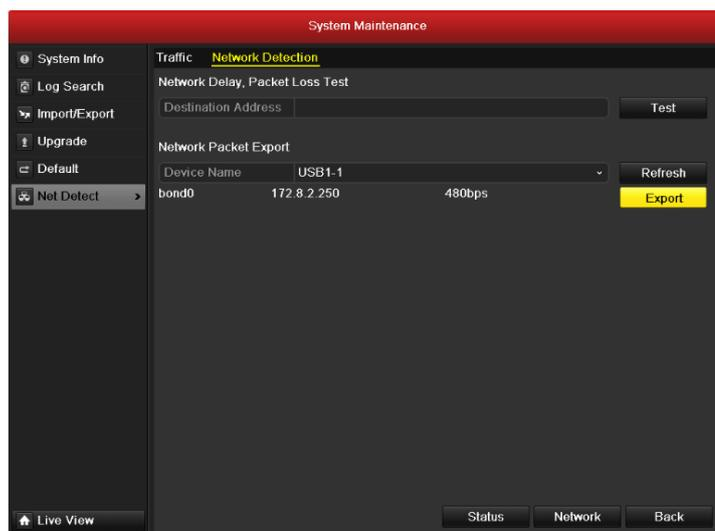

Figure 9.25 Export Network Packet
3. Select the backup device from the dropdown list of Device Name, as shown in Figure 9.25.